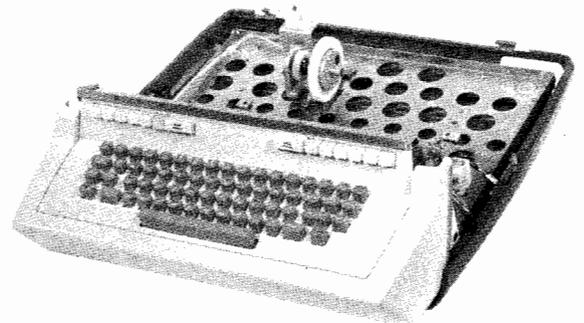

Figure 1 - Keyboard Unit
1.01 This section provides adjustment procedures for the late design, 11-contact 37 keyboard unit (Figure 1). It is reissued to incorporate minor engineering changes and comments received on Issue 1. Since only a limited distribution was made on Issue 1, marginal arrows have been omitted. For similar information on early design, 28-contact units, refer to Section 574-321-700TC.
1.05 References made to the right or left and front or rear apply to the keyboard unit in its normal operating position as viewed by the operator facing the unit (Figure 1).